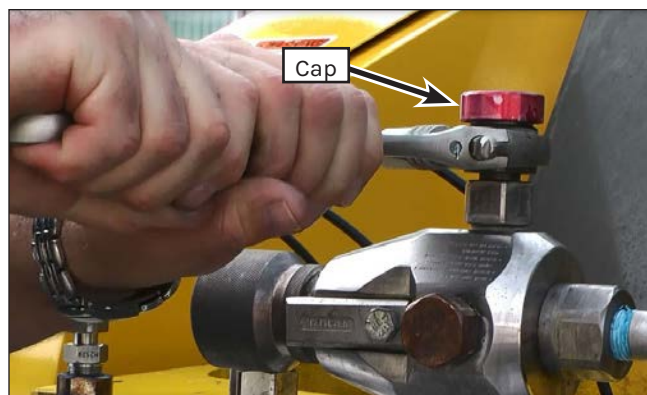

Figure 83: Housing/Cap Removal (15K Manifold Shown).
1. Use an adjustable wrench to remove the cap (Figure 83) from the rupture disc assembly.